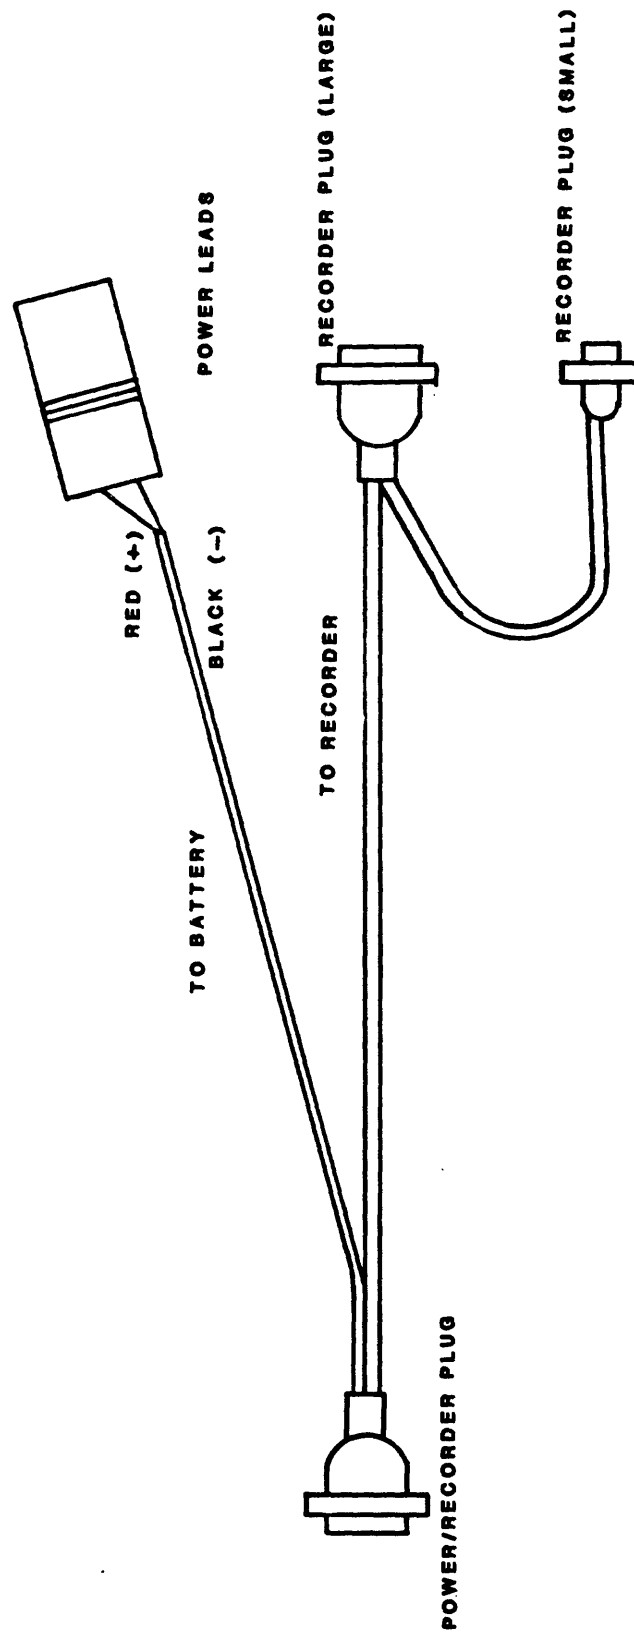

Figure 12.--Power-and-recorder cable assembly.
2. Connect the power-and-recorder cable assembly (fig. 12) to the Minimonitor and to a Leupold and Stevens digital input-output recorder.